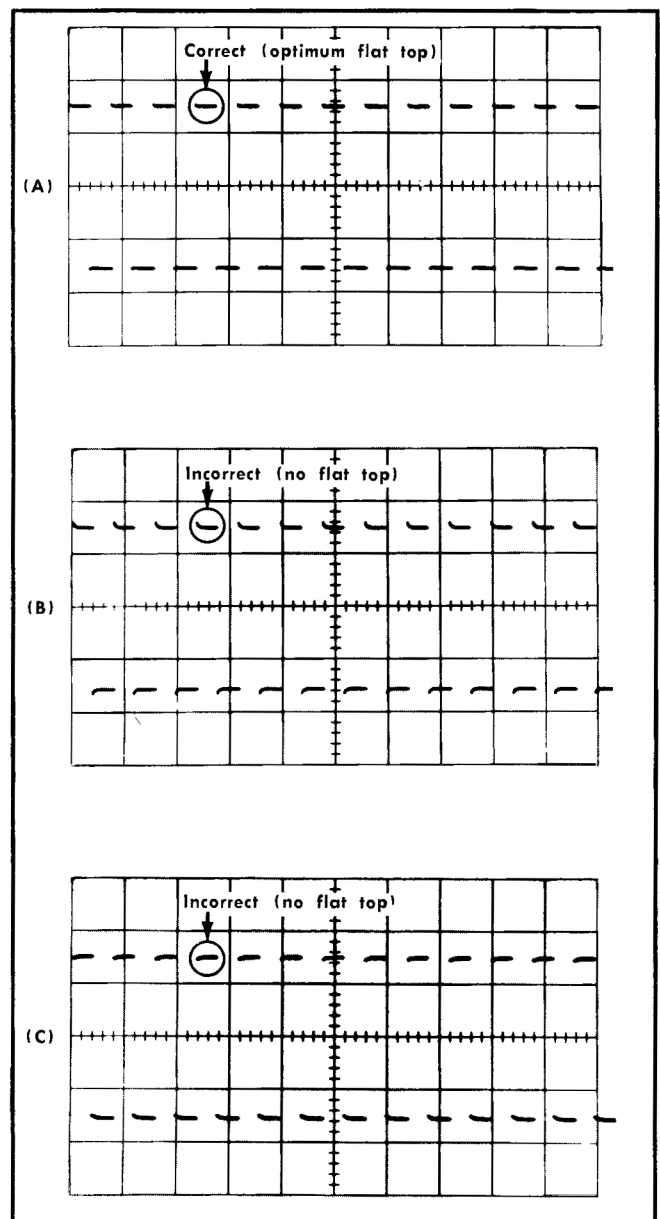

Fig. 6-2. (A) Typical CRT display showing correct VOLTS/CM switch compensation; (B) and (C) incorrect compensation.
- Check—Compensation of the waveform for level flat top, overshoot and undershoot at all VOLTS/CM switch settings, for deviation less than $\pm 3\%$ (1.2 mm), see Fig. 6-2. Adjust the output of the generator to maintain about 4 cm of display amplitude. It will be necessary to remove the 50 ohm termination at VOLTS/CM settings higher than 1 volt.